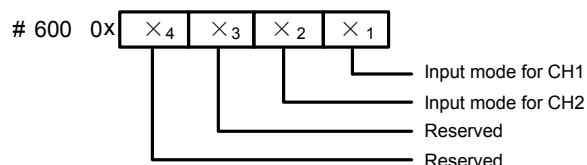

Figure 2-1 Mode setting element vs. channel
4. BFM#600: input mode selection, used to set the input modes of CH1 ~ CH2. See Figure 2-1 for their correspondence.